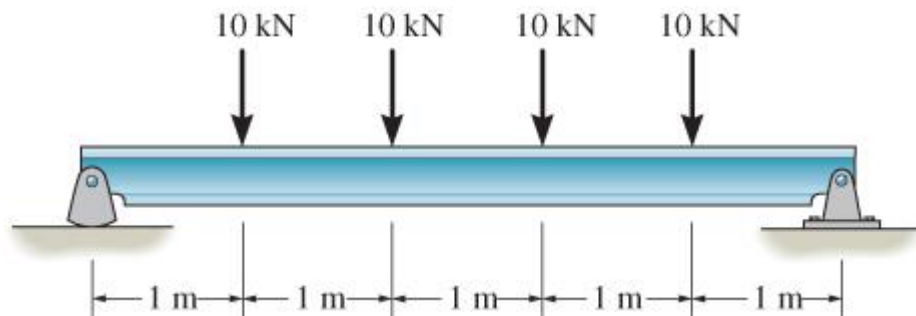
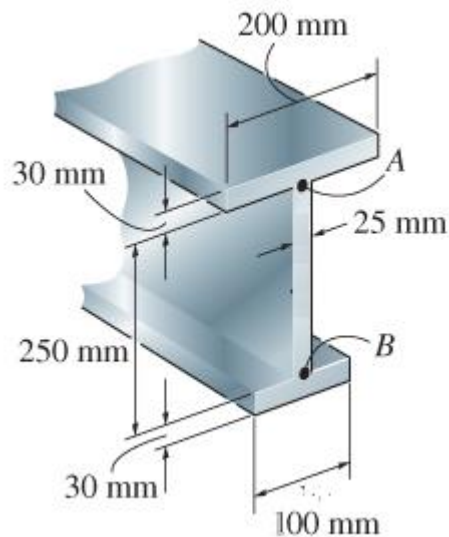

Figure 3a
Figure 3b
The beam shown in Figure 3a is subjected to a load. A cross section of the beam is shown in Figure 3b. For the beam shown below:
- Find the shear flow in the joint at point A (see Figure 3b) at 1.5 m from the left side of the beam. **(5 marks)**